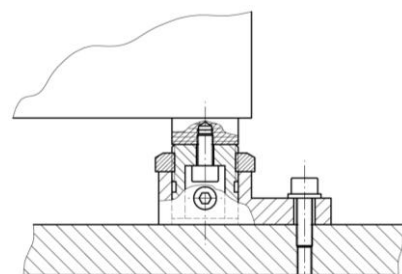

Figure 5
- WV with base plate and adjustment foot (see Figure 5)